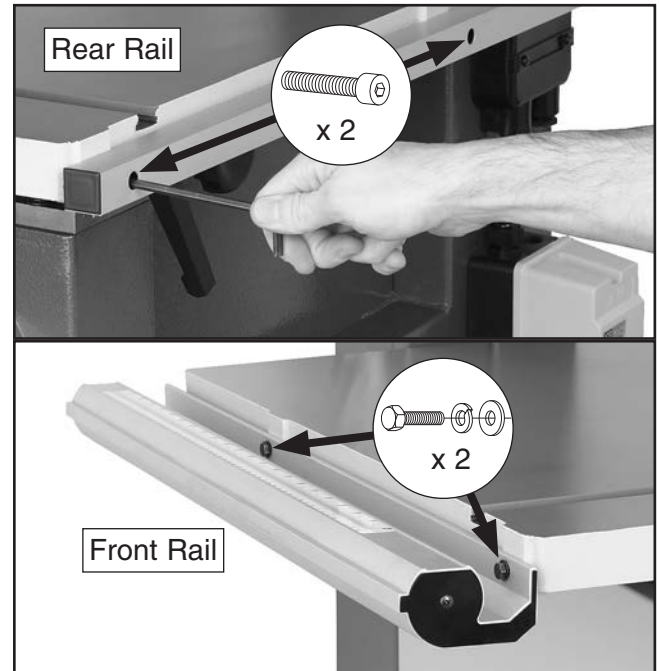

Figure 24. Rail installation.
10. Attach rear rail to table with (2) M6-1 x 16 cap screws, as shown in **Figure 24**.
11. Attach front rail with (2) M6-1 x 20 hex bolts, 6mm lock washers, and 6mm flat washers, as shown in **Figure 24**.